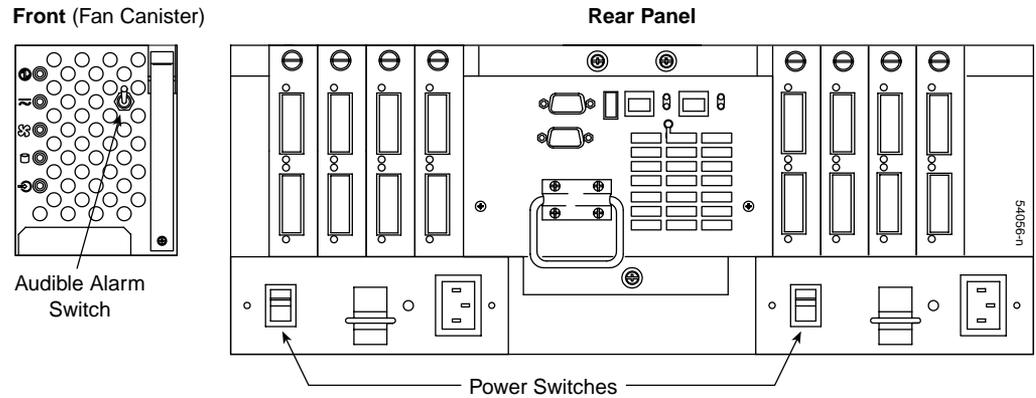

Figure 8-18 The Controller Enclosure Power Switches and Alarm Switch
10. Turn on both power switches on the rear of each controller enclosure (Figure 8-18).
11. Arm the optional alarm switch by setting it to the up position (Figure 8-18).